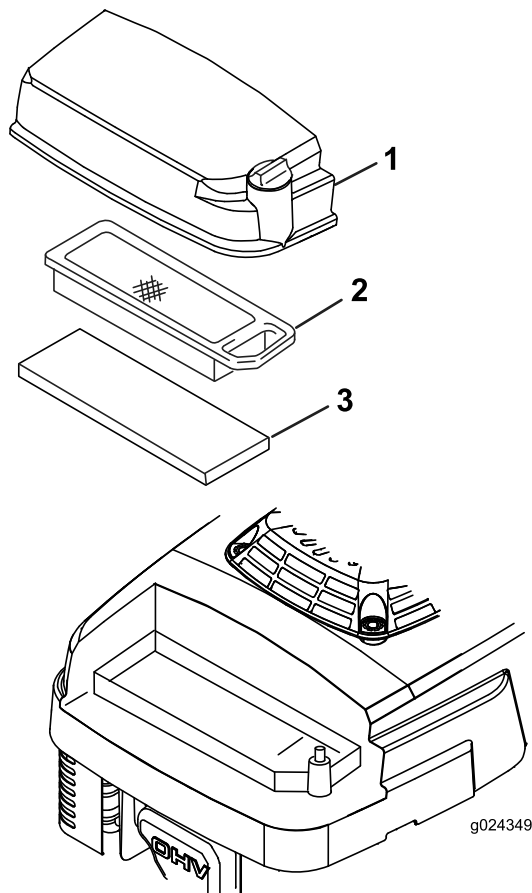

Figure 20
3. Loosen the screw on the air-cleaner cover (Figure 20).
5. Remove and inspect the paper air filter (Figure 20), and replace it if it is excessively dirty.
6. Remove the foam pre-cleaner (Figure 20) and wash it with a mild detergent and water, then blot it dry.